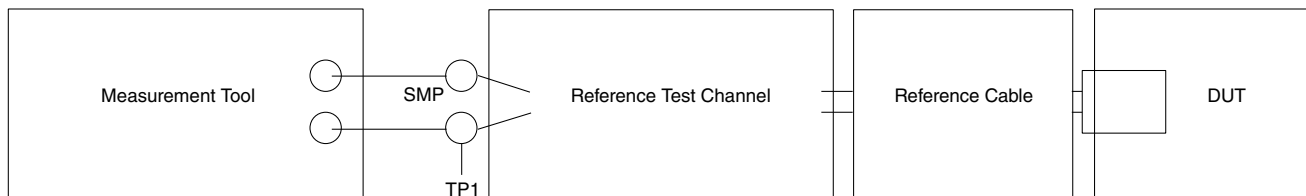

Figure 34. Tx normative setup
1. Measured at compliance TP1. See Figure 34 for details.